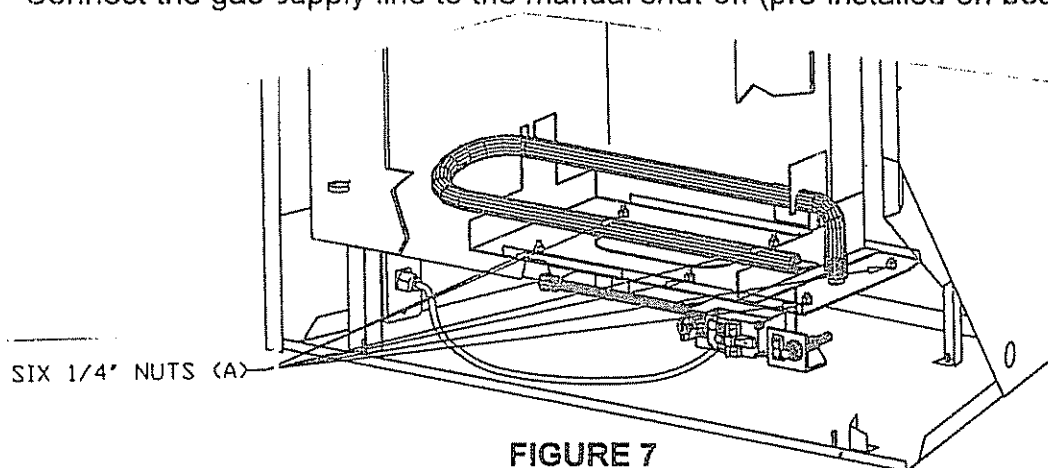

FIGURE 7
F) REGULATOR BOARD INSTALLATION. See figure 7.